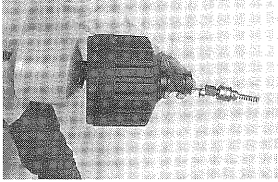

Figure 2
- Hold the inner rotating drum steady in one hand and turn the chuck counter-clockwise and remove. **(see Fig. 2)**